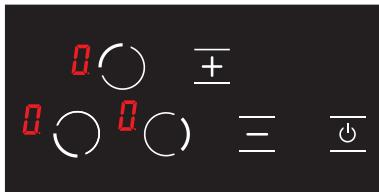

Figure 23
3. The D icon is displayed on all displays. (see Fig. 23) The D and H icons are displayed alternatively if any hob is hot.